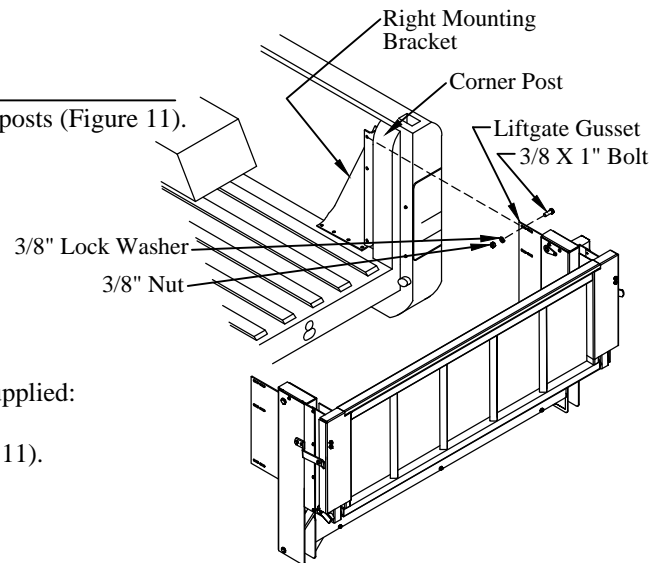

Figure 11: Mounting bracket and liftgate.
1. **Position** the mounting brackets into the truck bed in front of the corner posts (Figure 11).
- (3) 3/8"x1" hex head bolts on the bracket-side (Figure 11).
- (3) 3/8" lock washers, and (3) 3/8" nuts on the gusset-side (Figure 11).